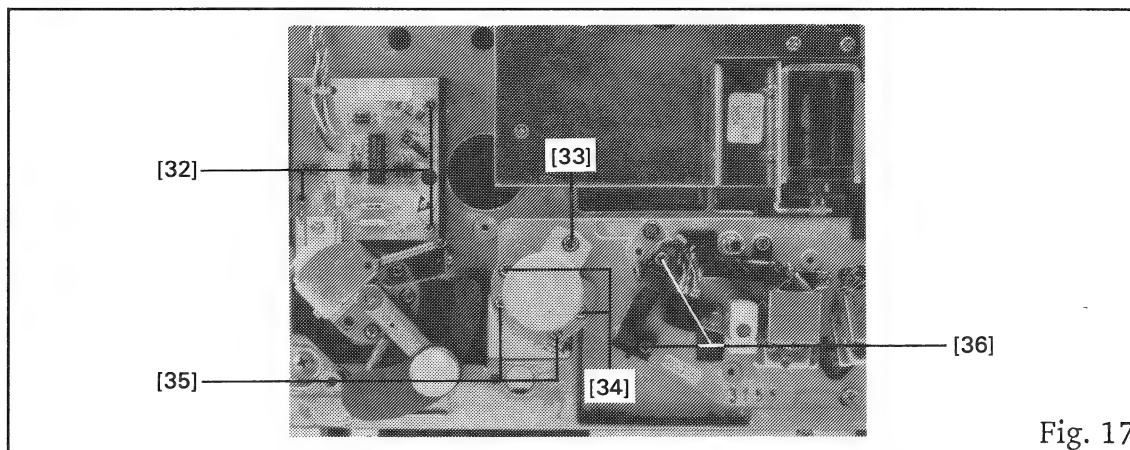

Fig. 17
- Remove the three PCB fixing screws [32] (Fig. 17) and separate the cable connector; carefully slide out the TENSION ARM BOARD.
- Unfasten 1 screw [33] (Fig. 17) and two PCB/roller support screws [34] (Fig. 17) of the circuit board mount and separate the cable connector.